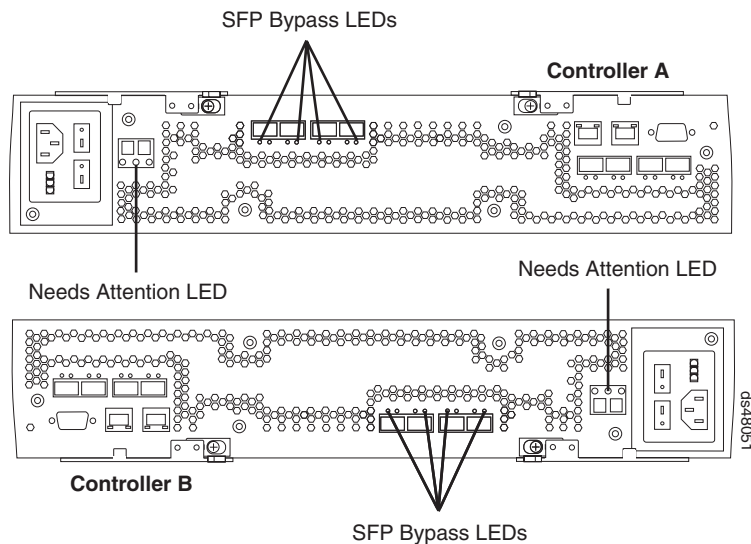

Figure 97. Needs Attention and SFP Model Bypass LEDs
3. Locate the failed SFP module by checking the SFP Bypass LED and Needs Attention LED on the controllers. If a fault is detected, the LEDs are lit. Figure 97 shows the location of the controller SFP Bypass LED and Needs Attention LED on the controller.